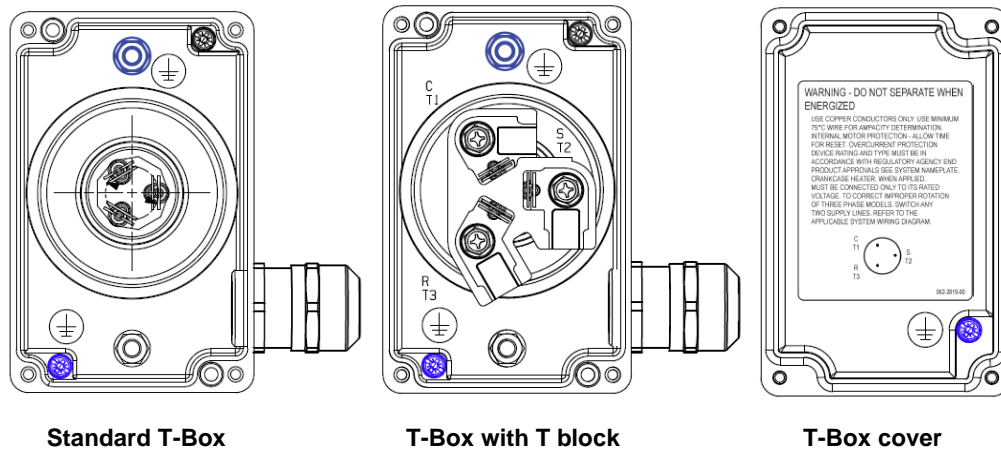

Figure 21: Terminal boxes
Assemble the cable gland M25 with a torque of 9.8 - 10 Nm. The cable gland is designed for cable diameters of 10 to 17 mm – see **Figure 21 & Table 10**. The degree of protection (IP) will be safeguarded only if sealing and cable glands are properly assembled. Only run the compressor with permanently wired cables. The system manufacturer/installer shall provide the required strain relief.